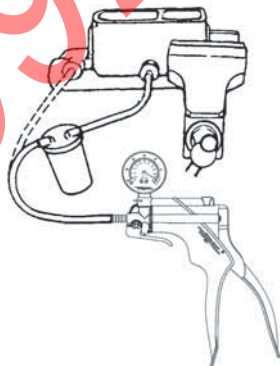

FIGURE 17: BENCH BLEEDING
3) Remove a plug from the master cylinder and attach the proper adapter to this master cylinder outlet port. Connect the pump tube to the reservoir jar and the jar tube to the adapter (FIGURE 17).